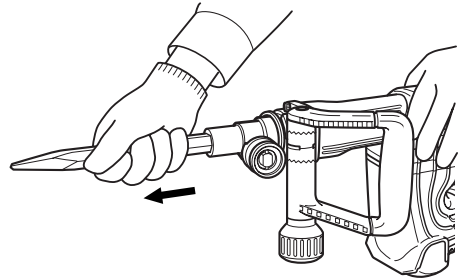

Fig. 3
- (3) Return the tool holder to its original position, pull the tool to make sure it is locked completely. (Fig. 3)